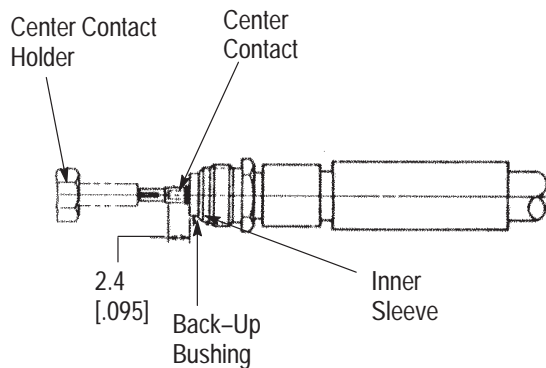

Figure 5
### 3.3. Soldering the Center Contact to the Cable Inner Conductor (Figure 5)
3. Trim and de-burr the inner conductor projection to length, as shown in Figure 5.